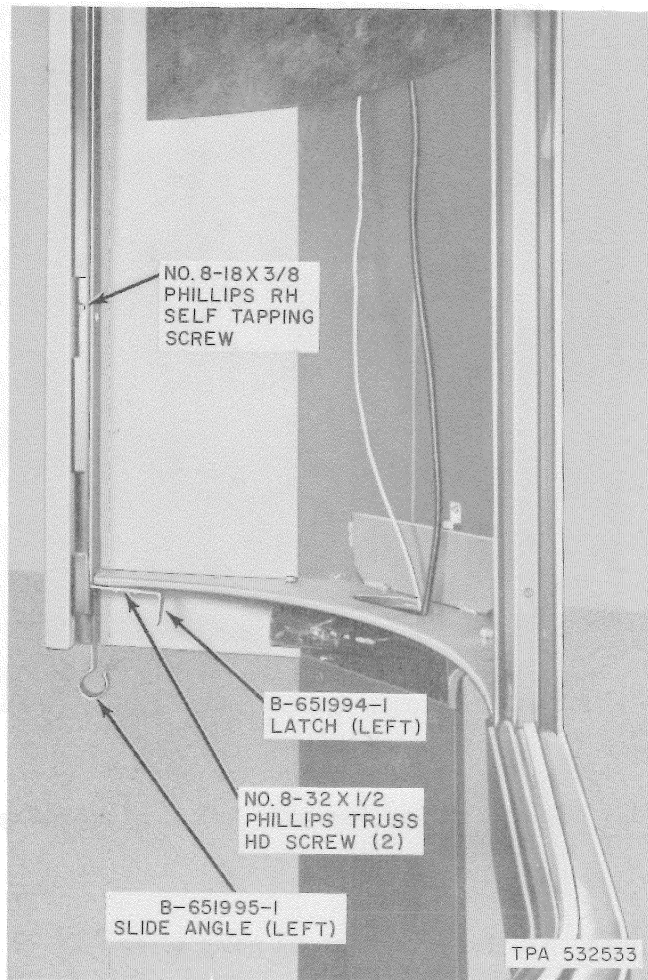

Fig. 23—Apparatus For Securing Panels
3.10 Access to the circuit breaker, ground lug, and mounting holes for the 123A1A protector is obtained by removing the lower left inside wall panel as follows (Fig. 23):
- (b) Remove the No. 8-18 by 3/8 Phillips RH self-tapping screws (Fig. 23) located along door facing.